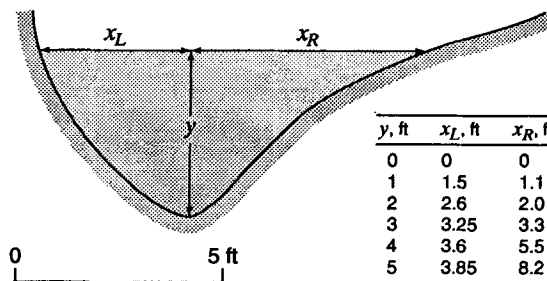

Figure P10.33
*From Fig. P10.33 (measurements may vary).